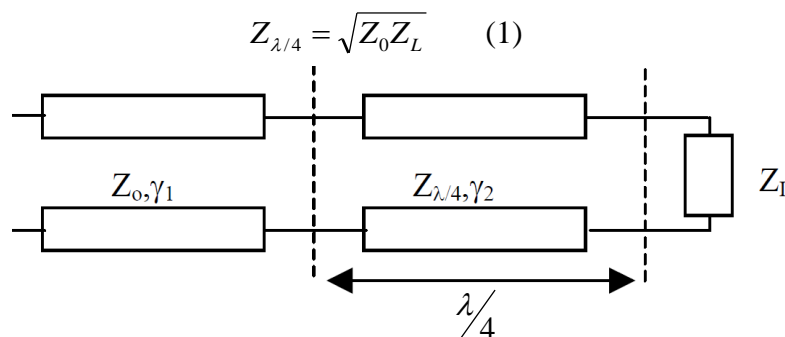

Figure 1 Basic schematic of a quarter-wave transformer.
In class we also discussed quarter-wave transformer sections of transmission lines using empirical formulas. In this experiment you will use this theory as a starting point for the simulation and optimization of some high frequency circuits that require some type of matching, to improve the power delivered to the load, and to minimize reflections. Basically we are trying to match a load Z_L to a transmission line which has a characteristic impedance where $Z_0 \neq Z_L$. To do this we can use a matching technique called a quarter-wave transformer which uses a transmission line of a fixed $\lambda/4$ length (see Fig. 1). The impedance $Z_{\lambda/4}$ of the transformer is given by Eq. (1). We will also simulate our circuit using values typically used for dielectric substrates and microstrip lines, and just like in the second lab where you determined the dielectric constant of the substrate.